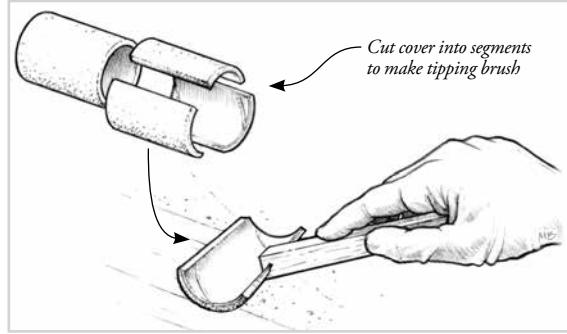

Figure 16-24 Tip off the fresh coat of epoxy with the grain, using a foam roller brush to remove bubbles and roller marks.
8. Drag a foam roller brush lightly over the fresh epoxy in long, even, overlapping strokes after each full batch is applied. Use enough pressure to smooth the stipple, but not enough to remove any of the coating (Figure 16-24). Alternate the direction in which